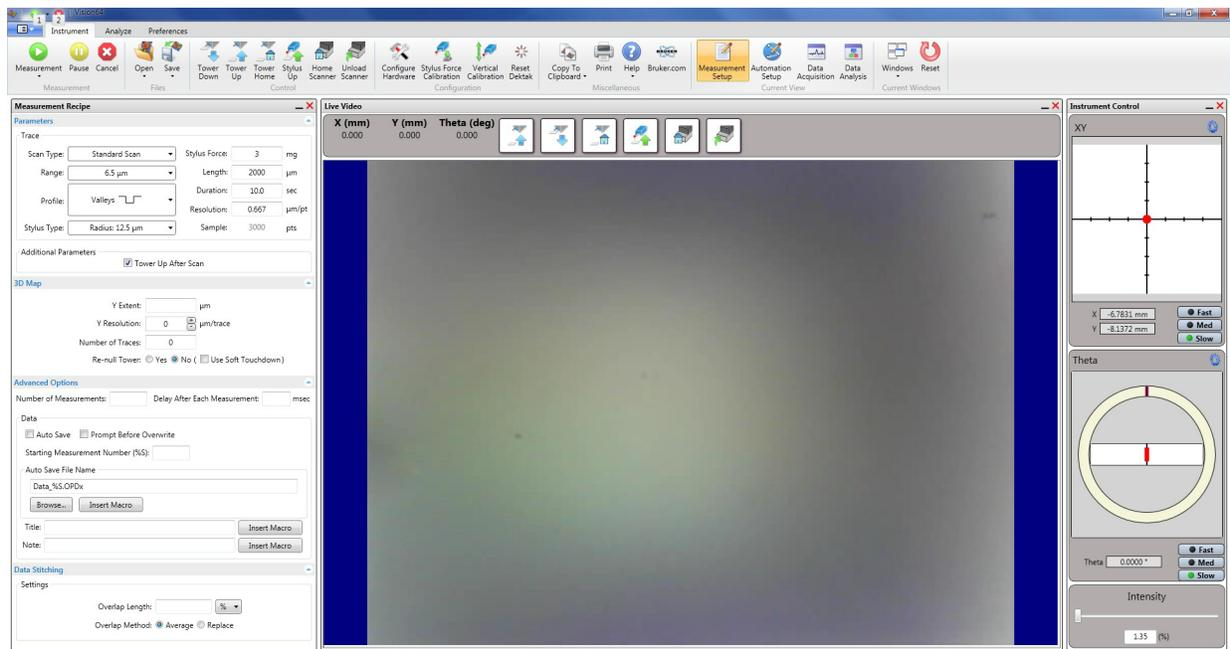

Figure 3-4: Vision64 Instrument Tab, Including the Live Video Display
- The Vision64 Welcome screen appears, followed by the Vision64 **Instrument** tab, which includes the DektakPro Live Video Display (see Figure 3-4).
IMPORTANT SAFETY INFORMATION! The DektakPro system is equipped with a red EMERGENCY OFF button located on the EMO Box connected to the back of the profiler (see Figure 3-4). You may place this box in any convenient and readily accessible location. Pressing the EMERGENCY OFF button immediately shuts off power to all system components, excluding the computer, monitor, and power supply adapter. The 24 VDC control circuit in the EMO Box also remains energized. After you power down the system via the EMO box, you must exit Vision64, shut down the computer, and turn off the monitor as described below.